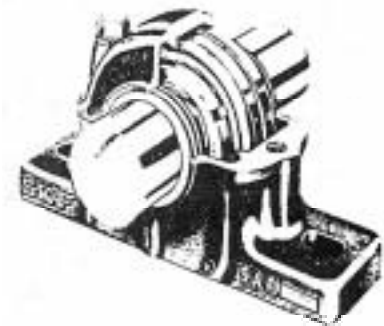

Fig. 16. Cutaway Illustration
**Step #12. (Fig. 16) Cutaway Illustration**
**Step #11. (Fig. 16) Cutaway Illustration**
**Step #10. (Fig. 16) Cutaway Illustration** Here a section of the housing has been removed to show the relative position of all the parts.